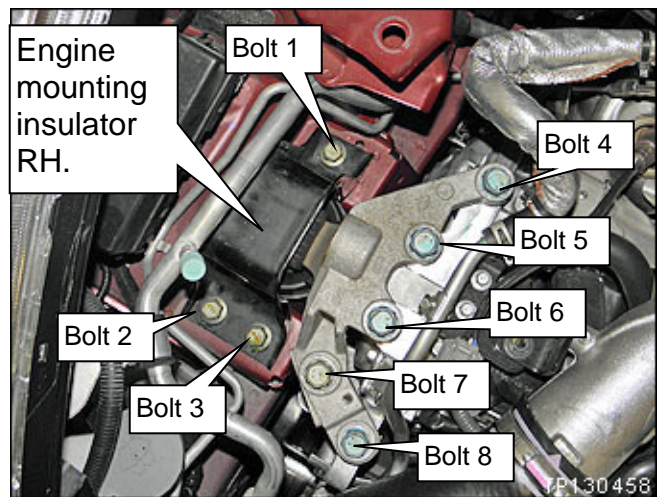

Figure 54
- Raise or lower the engine as needed to align and install the 8 bolts shown in Figure 54.